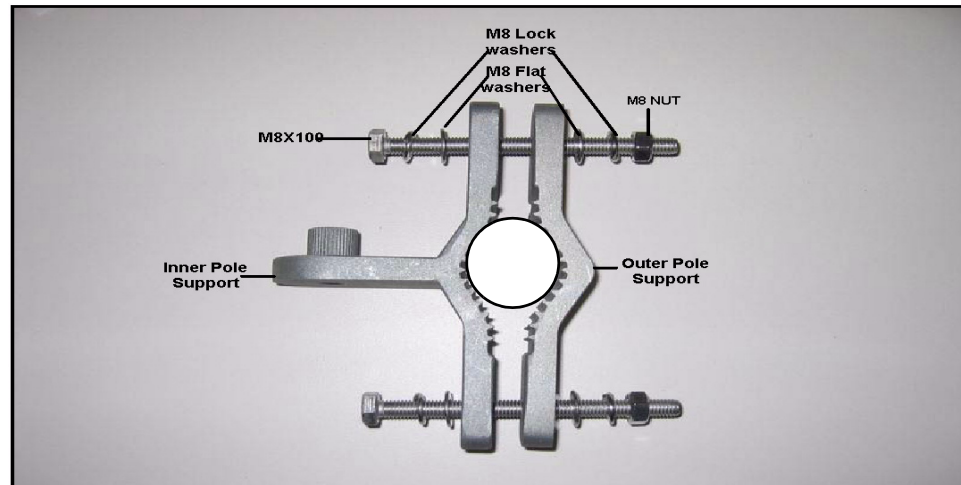

Figure 2-4 Pole Support Assembly
3. Attach the Inner Pole Support and Outer Pole Support with M8X100mm Long Screws. Place one Flat washer and one M8 Lock washer each (both ends of the pole supports) before inserting the screw from the inner pole support to the outer pole support. Attach a M8 Hex Nut on the other end of each M8 Long Screw. Do not tighten the M8 Hex Nuts yet. Figure 2-4 displays a pole support assembly.